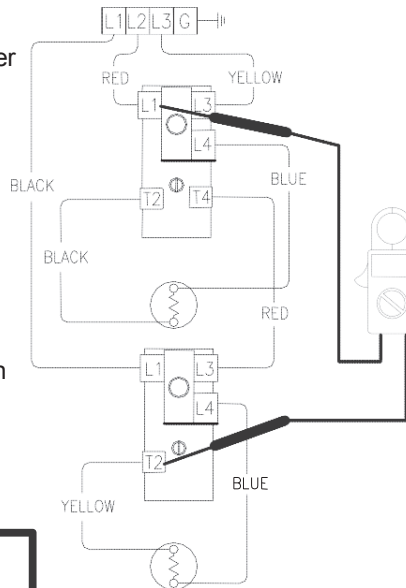

Figure 44
(see Figure 44).
4. See Figure 44 above. Check across terminal L1 of upper thermostat & T2 of lower thermostat.